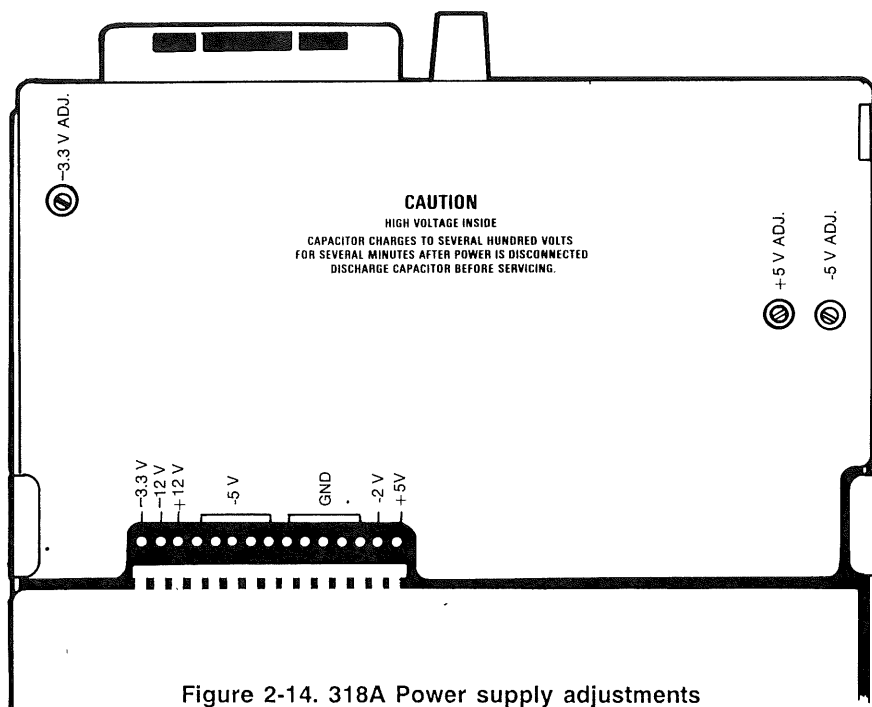

Figure 2-14. 318A Power supply adjustments
- a. Refer to Figure 2-14. Remove the 318A's wrap-around cover.